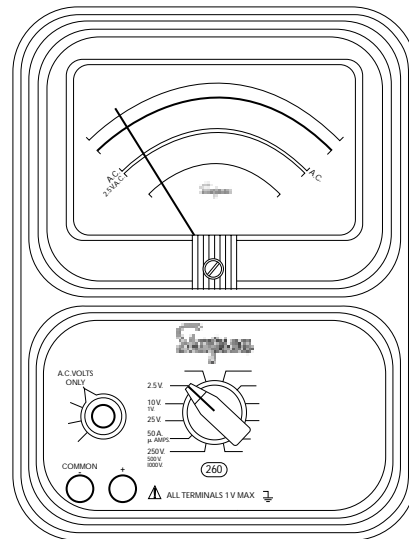

Figure 4-5. Jacks and Switch Positions for Measuring AC Voltage 0-2.5 through 0-250V Ranges
- a. Set the function switch to AC Volts Only position (Figure 4-5).